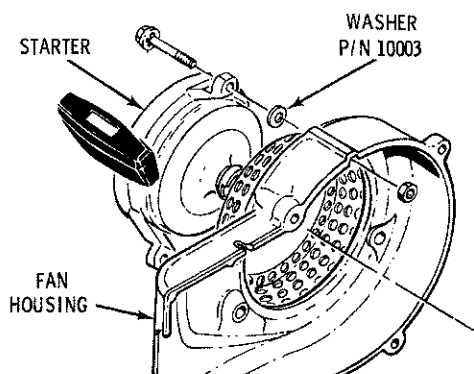

Figure VII-8
1. Install a washer between each starter mounting leg and the fan housing, to space the ratchet away from the crankshaft. (Figure VII-8)